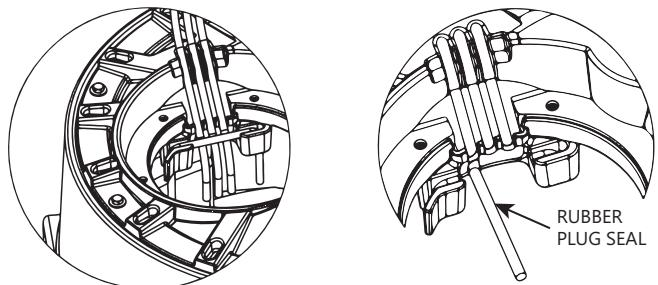

Figure 11. Proper Cord Sealing Behind QuickTree Rod
**Re-inserting the QuickTree:** After service or inspection of the floats, re-insert the QuickTree into its holder. It is important that cords from the pump motor, float switch, and optional alarm float are properly sealed in the specially designed rubber sealing channels under the access cover. Proper sealing is required to keep sewer gas from leaking from the system. Place the cords securely in the rubber channels as shown in Figure 11 [left], being careful to remove excessive cord "slack" from inside the system.
**IMPORTANT:** Three cord channels are provided. For systems without the alarm option, only two channels are used and the third must be "plugged" with an attached rubber plug seal. See Figure 11 [right]. If the alarm cord is present, all three channels will be used. All rubber cover gaskets are permanently attached and do not require replacement.